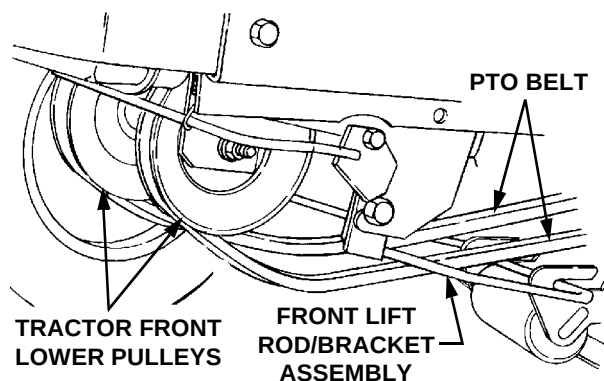

Figure 60
14. Twist the PTO belt 1/4 turn to engage the narrow sides of the belt into the grooves of the two tractor front-lower pulleys (Refer to Figure 60).